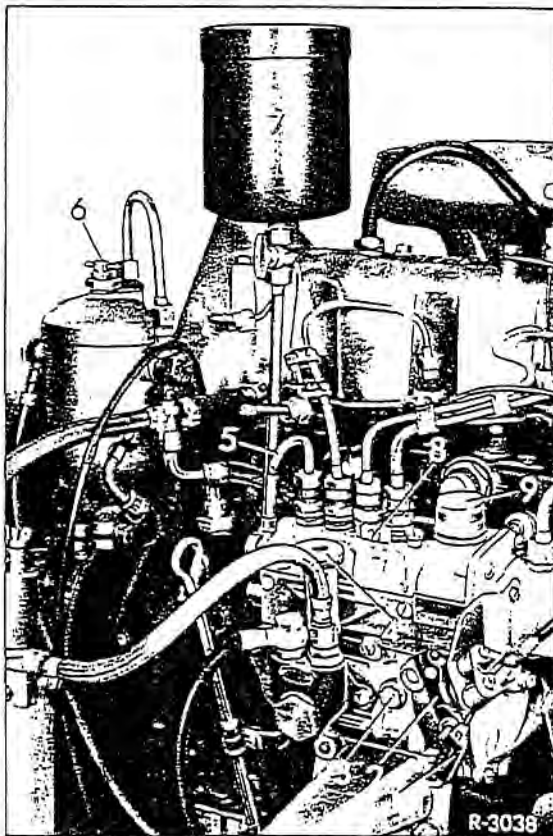

Fig. 00-22/1
1. Back off bleed screw (6) at main fuel filter one or two threads (Fig. 00-22/1).